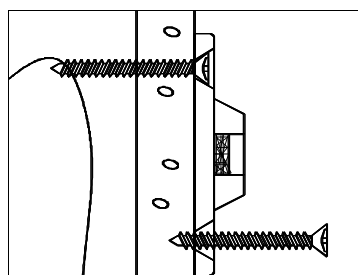
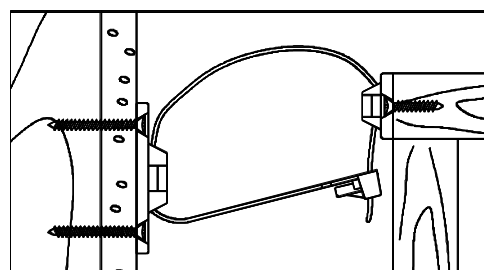

Figure 2
Figure 3
3. Attach the Back Panel (E) to the assembled pedestal using Wood Screw (b) as shown in **Fig.3**. Securely tighten with Phillip screwdriver.
3) MOUNTING THE WALL-SIDE BRACKET: Position the wall-side bracket along the selected stud mark so that it will be adjacent the furniture-side bracket when the furniture item is moved to its final position. The wall-side bracket should be about ONE inch lower than the furniture-side bracket (See Figure 3). Use the TWO Long screws to secure the wall-side bracket to the wall. Remember to position the wall-side bracket vertically so that both screws will engage the selected wall stud (See Figure 2).